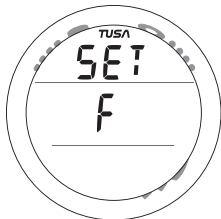

Fig. 35 - SET F (FO2)
- > A and S (simultaneously for 2 sec) while NORM Surface Main is displayed will access Set F (Fig. 35).